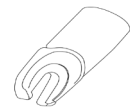

fig. 12b
- The integral type is molded, cast or machined into the outer faces of the front fork dropouts (fig. 12b).